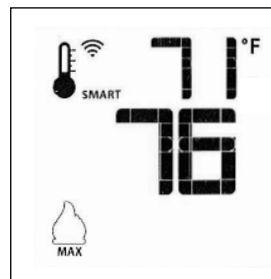

Figure 8.19. Smart Mode
- To activate this function, press the Thermostat Key until the word “SMART” appears to the right of the thermometer bulb icon. Fig. 8.19.